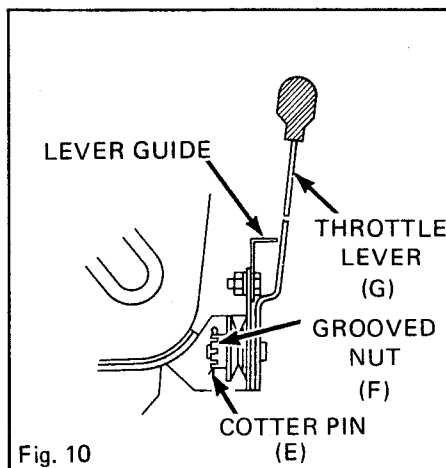

Fig. 10
Adjust throttle lever (G) Figure 10 tension whenever lever movement becomes loose.